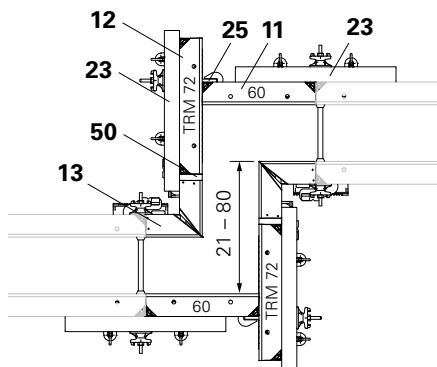

Fig. A10.02
- Panel TR 60 (11)
- Multi-Purpose Panel TRM 72 (12)
- TRIO Inside Corner TE (13)
- Compensation Waler TAR 85 (23)
- Stopend Tie (25)
- Compensation provided by the contractor (50)
- (Fig. A10.02)